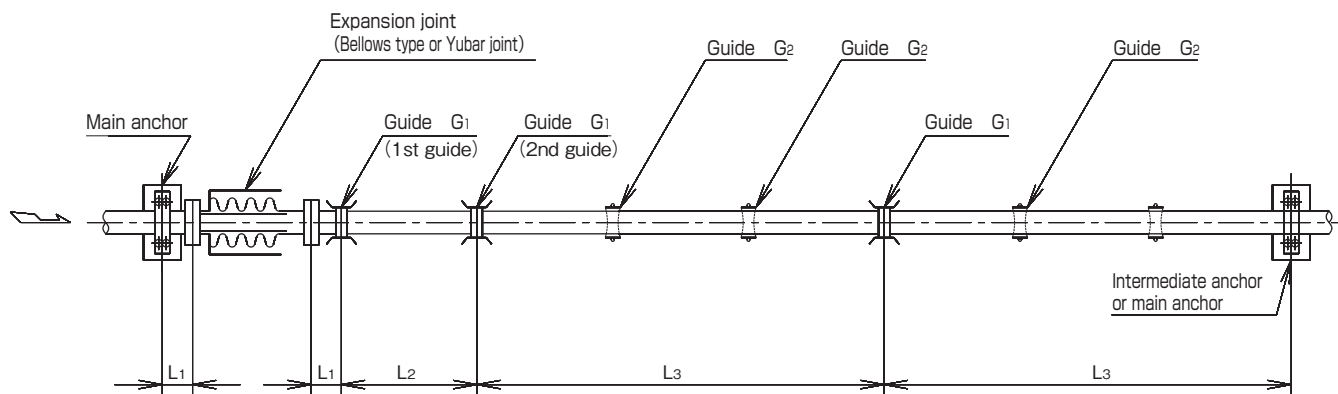
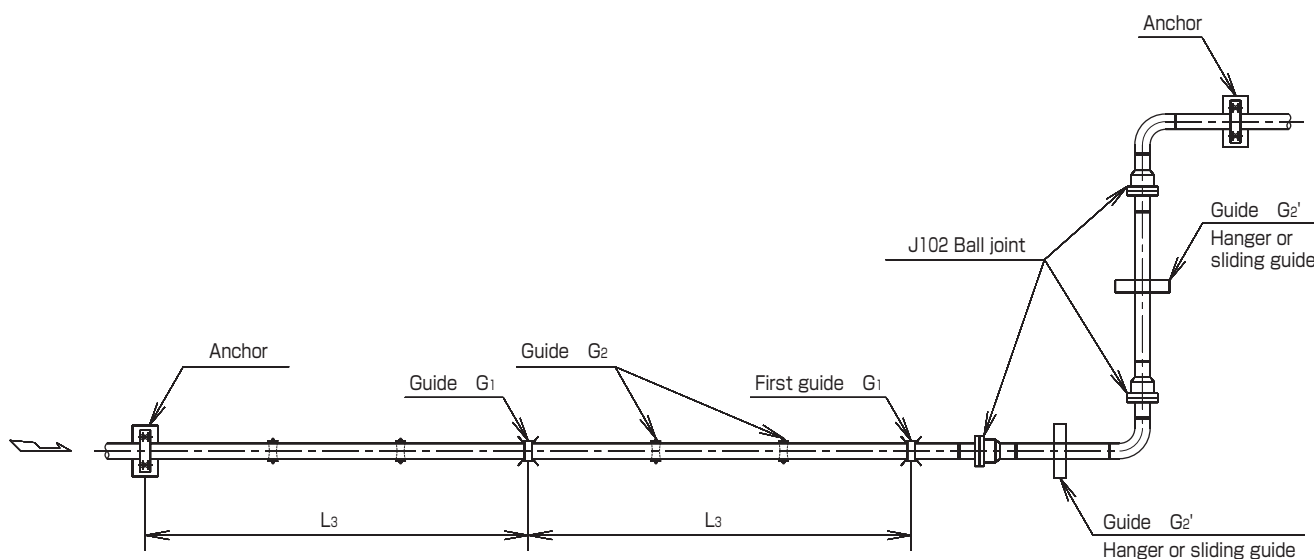
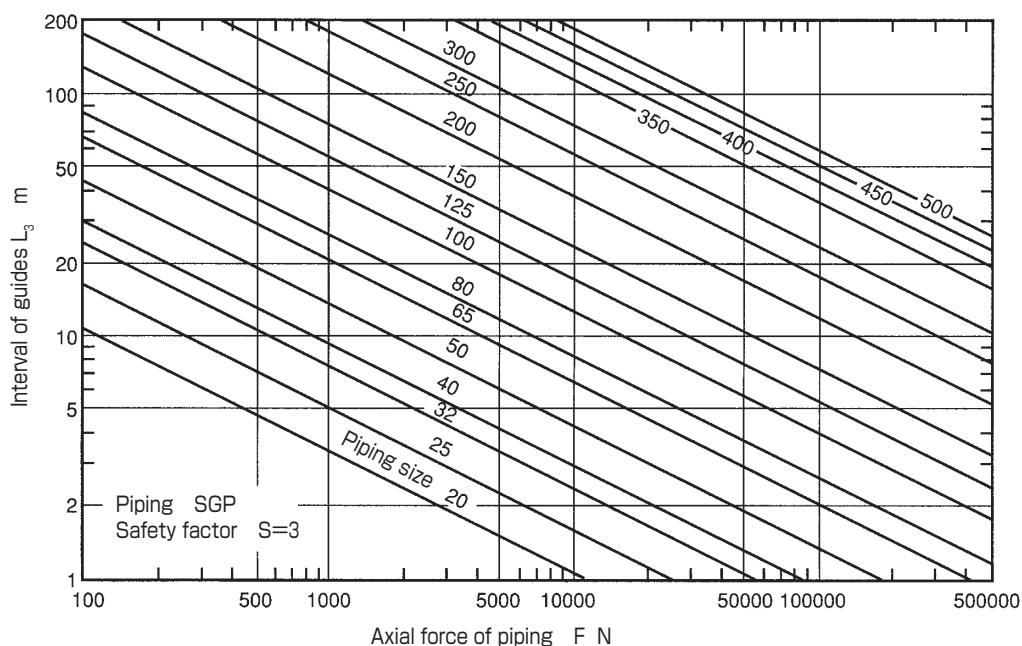

Fig. 3-1 Example of guide for bellows expansion joint or Yubar joint
Fig. 3-2 Example of guide for ball joint
Fig. 4 Interval of guides
(1) Guide for alignment and prevention of buckling G₁
Refer to Fig.3-1 and Fig.3-2. Install guides so that the guide interval from expansion joint to 1st guide (L₁), guide interval from 1st guide to 2nd guide (L₂), and guide interval between intermediate guides (L₃) dose not go beyond the guide interval calculated by following formula (10)~(12). Guide interval (L₃) can be found in Fig.4 when the piping is SGP.